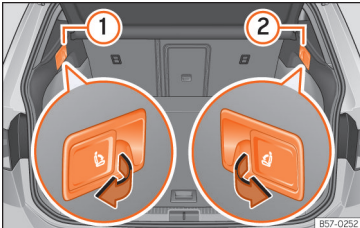

Fig. 78 In the luggage compartment: levers to unlock the rear backrest.
- Pull the remote release lever of the left »» Fig. 78 ① or right ② parts of the backrest in the direction of the arrow. The released part of the rear seat backrest is folded automatically down and forwards.